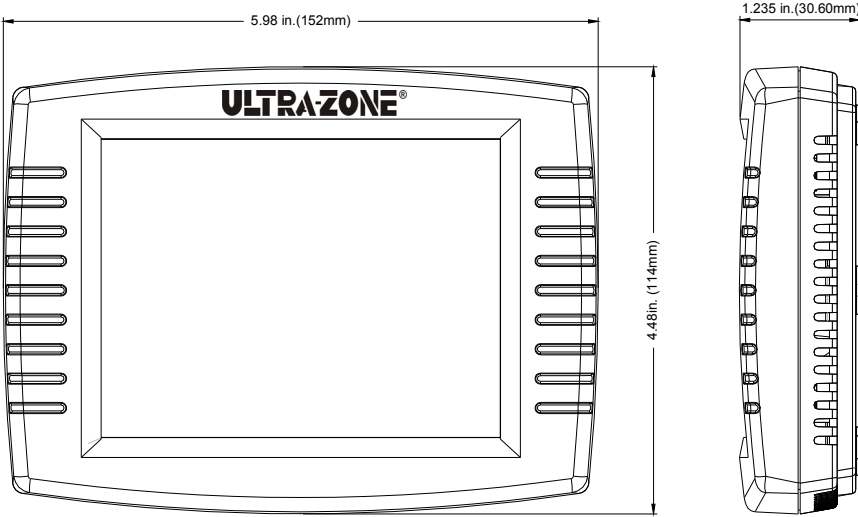

Fig. 1. Touchscreen Thermostat dimensions in inches. (mm).
1. EWT-3102/EWT-3103 Touchscreen Thermostat: see Fig 1.